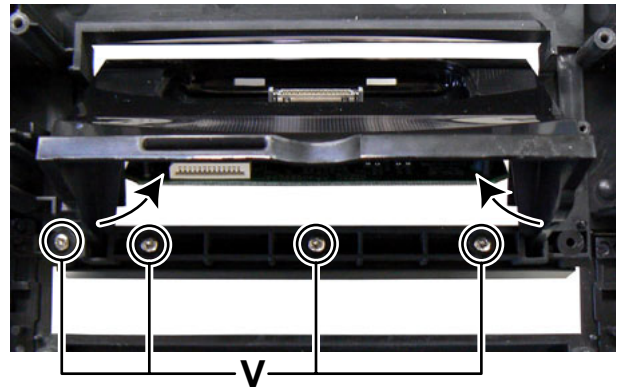

Fig.18
(See Fig.18)
- (7) It takes both picks off the hook and take off iPod door while inclining the fulcrum of the door inward. (See Fig.18)